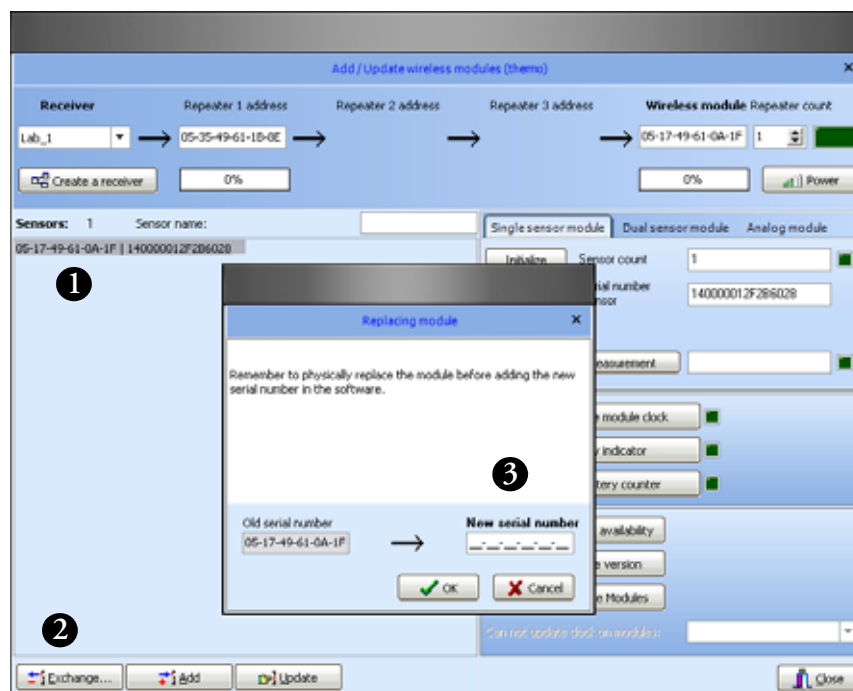

Figure 33. Replace an end-point module by entering the new end-point module's serial number
3. Click to select the old end-point module from the list on the left (#1 in Figure 33), and then click on Exchange (#2).